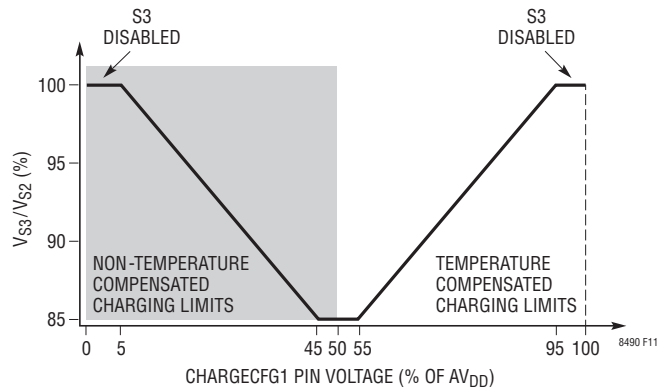
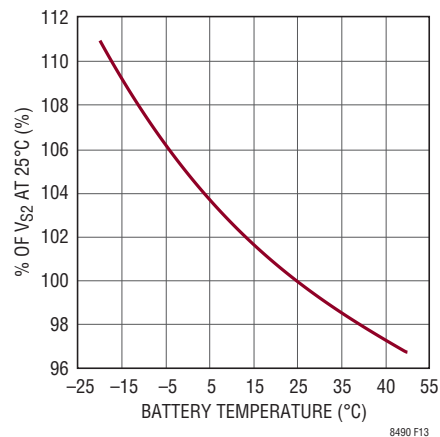

Figure 11. CHARGECFG1 Pin Configuration
Figure 13. Stage 2 Voltage Limit vs Temperature When Temperature Compensation Is Enabled
The Stage 2 voltage limit (V_{S2}) is the maximum battery charging voltage. The voltage limits for Stages 0, 1 and 3 are all related to the Stage 2 limit as shown in Table 3 and Figure 11. If temperature compensated charging is enabled, then V_{S2} will change with temperature as shown in Figure 13. As such, the limits for the other stages will also change with temperature since they are a constant proportion of V_{S2} .
The CHARGECFG1 pin is a multifunctional pin as shown in Figure 11. Set this pin using a resistor divider totaling no less than 100k Ω to the AV_{DD} pin (see the Typical Applications section for examples). The voltage on CHARGECFG1, as a percentage of AV_{DD} , makes the selections discussed below. Avoid setting the divider ratio directly at any of the inflection points on Figure 11 (e.g. 5%, 45%, 50%, 55% or 95%)
2. **BATTERY VOLTAGE TEMPERATURE COMPENSATION:** Some battery chemistries charge best when the voltage limit is adjusted with battery temperature. Lead-acid batteries, in particular, experience a significant change in the ideal charging voltage as temperature changes. If enabled with the CHARGECFG1 pin, the battery charging voltage and all related voltage thresholds are automatically adjusted with battery temperature. As the voltage on the TEMPSENSE pin changes, the PWM duty cycle from the FBOW pin changes such that the voltage limits of the LT8490 follow the curve shown in Figure 13.